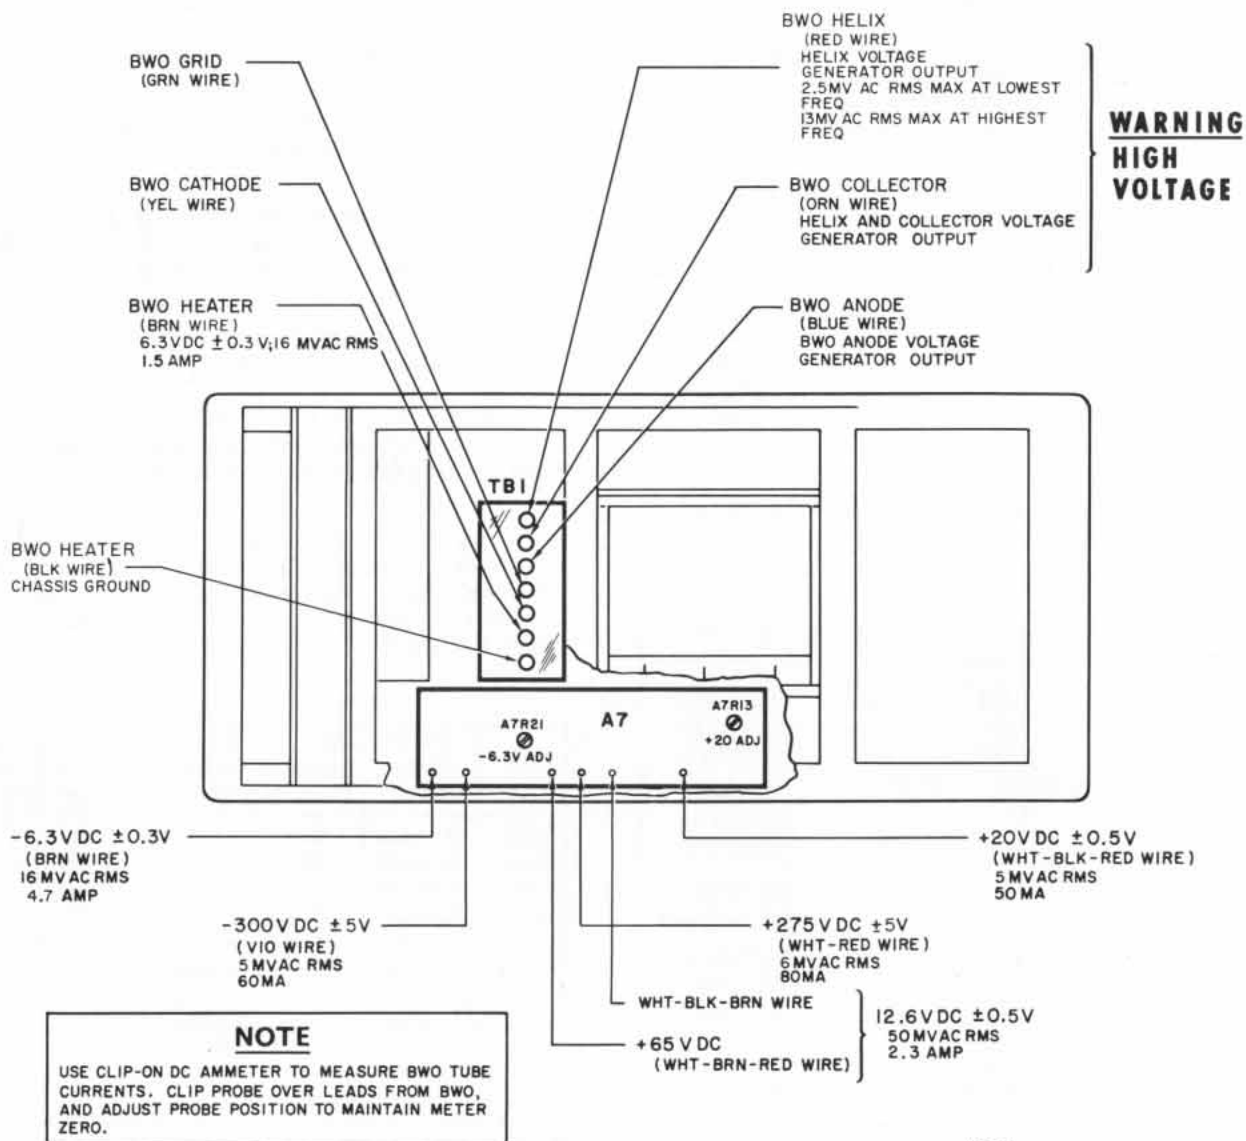
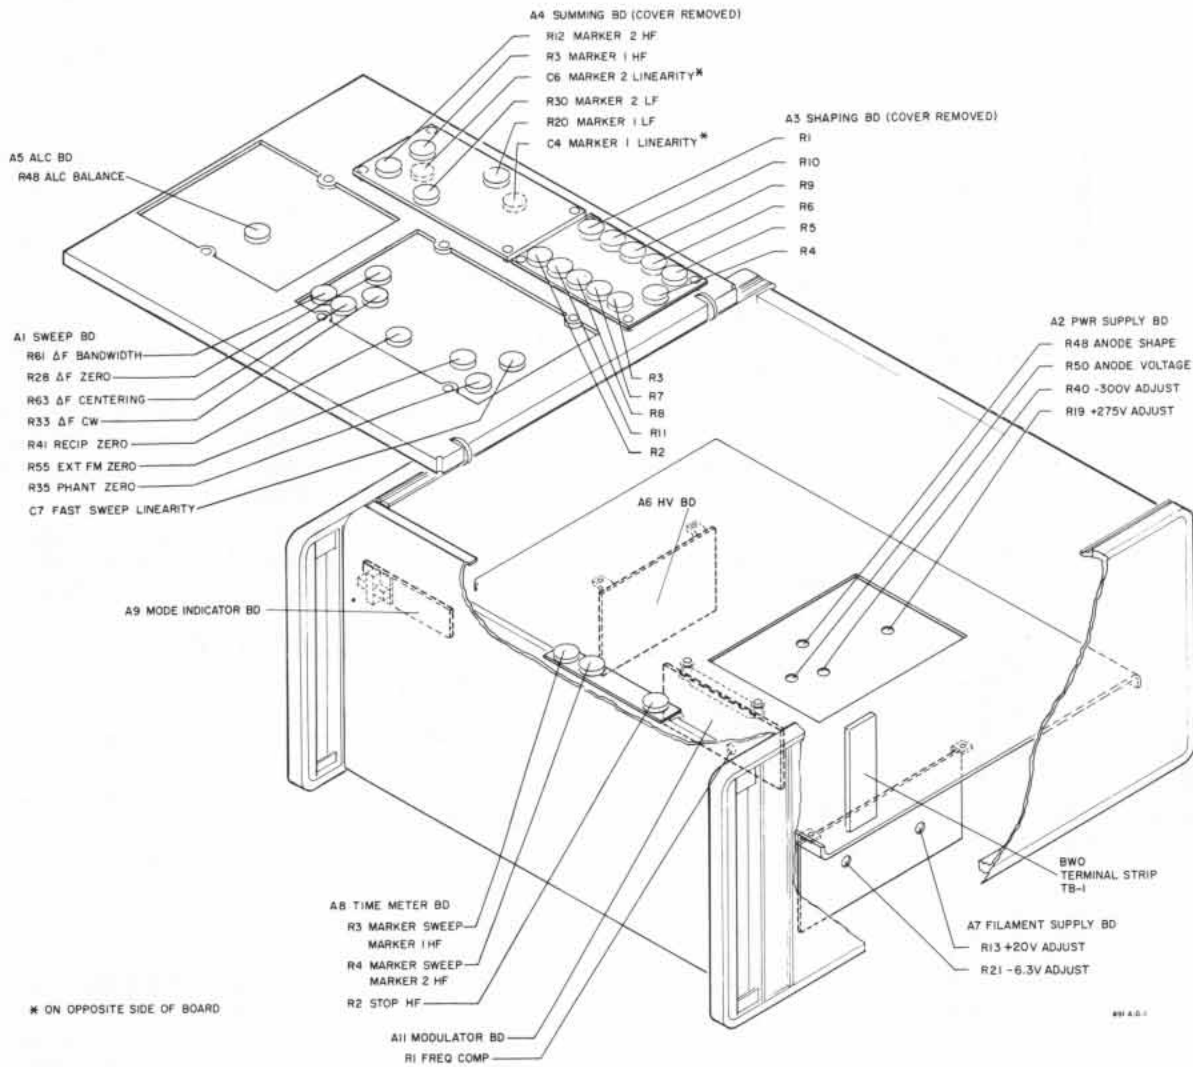

Figure 5-6. Right Side View Showing Convenient Points for Measuring BWO Tube and Principal Operating Voltages
Figure 5-7. Locations of Internal Adjustments and Etched Circuits
5-43. There are four adjustable dc operating voltages: -300, +275, +20, and -6.3 volts. Adjust these voltages only if proven by accurate measurement to be significantly outside the tolerances specified on the schematic diagrams and Figure 5-6, and only if the voltage error is not caused either by excessive current being drawn through the regulator or by inadequate voltage being supplied to the regulator from the power supply rectifiers.
5-44. Because the -300 and +275 volt supplies are interdependent, and because the +275 volt supply is used as a reference in the Helix Voltage Generator, any adjustment to either of these regulators will change the frequency dial calibration. Also because of the interdependence of these power supplies, the -300 volt regulator must be set first, the +275 volt regulator second, and the +20 and -6.3 volt regulators last. After adjusting any of these regulators, check the output voltage of each other regulator to be sure it is still within specified tolerances. Do not attempt adjustment of the -300 and +275 volt regulators with a voltmeter having more than $\pm 0.3\%$ error. See Figure 5-7 for locations of the power supply adjustments and Figure 5-6 for convenient measurement points.
d. Connect a dc voltmeter (Table 5-2) to BWO anode terminal and clip-on dc ammeter (Table 5-2) to BWO helix lead (see Figure 5-6).
a. Turn on Sweep Oscillator and allow two-minute warmup. Remove cabinet top cover for access to etched circuit A1 (see Figure 5-7).
c. Remove cabinet top cover for access to etched circuit A3 (Figure 5-7).
c. Remove cabinet top cover for access to etched circuit A8 (see Figure 5-7).
c. Remove cabinet top cover for access to etched circuit A1 (see Figure 5-7).
c. Remove cabinet top cover for access to etched circuit A4 (see Figure 5-7).